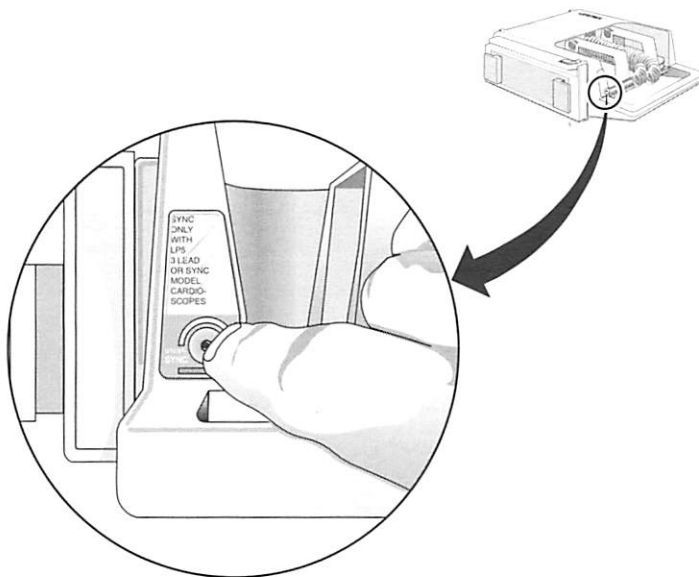

Figure 6-8. The LIFEPAK 5 SYNC button
- 3 With the LIFEPAK 5 turned on, press the LIFEPAK's SYNC button on the front-left of the LIFEPAK 5 (Figure 6-8). The button lights when activated. Make sure it lights.